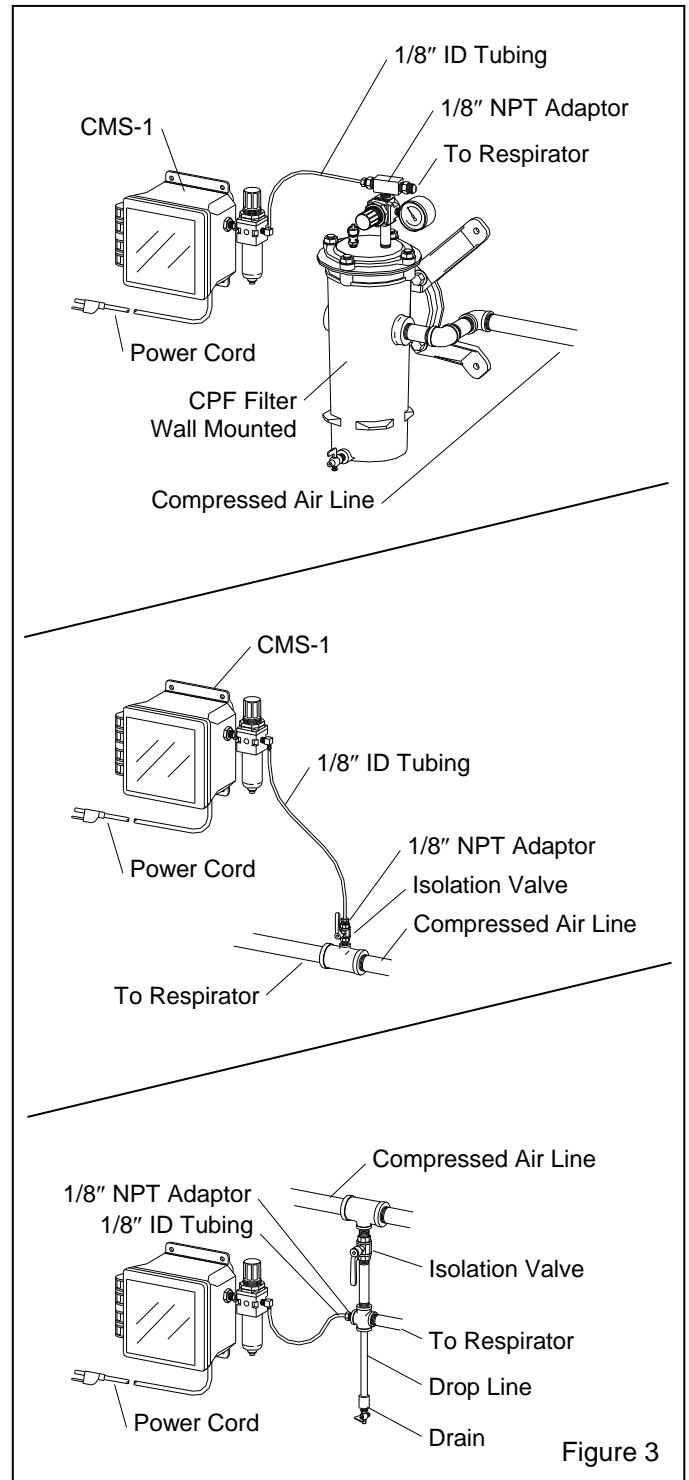

Figure 3
2.3.2.3 Place a tee in the air-supply line, and use a bushing or other adaptor to connect the 1/8" NPT tube adaptor supplied. Install an isolation valve at the source to enable depressurization for service and to remove the monitor. Typical setups are shown in Figure 3.